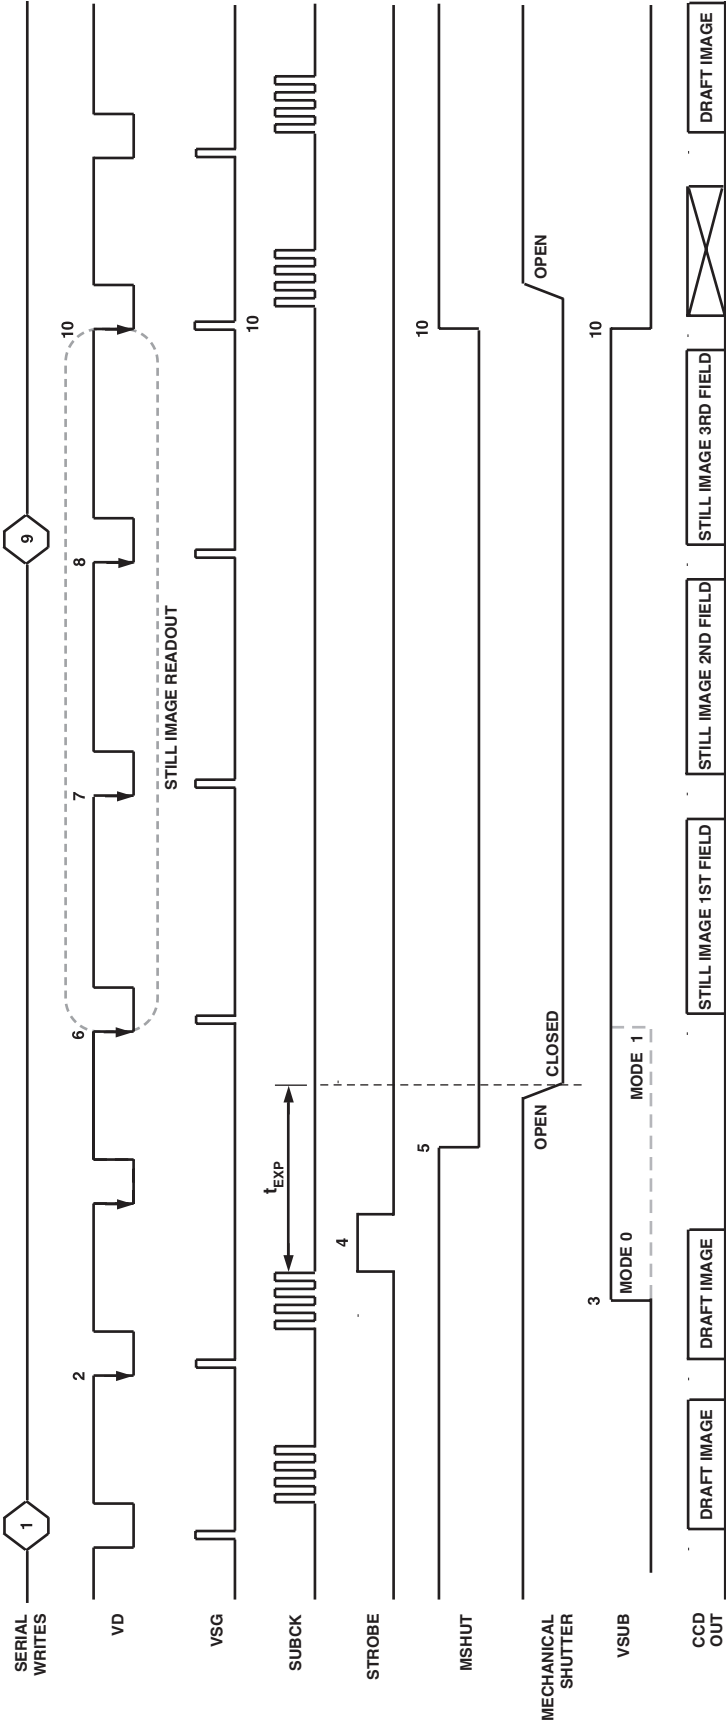

Figure 32. Example of Exposure and Still Image Readout Using Shutter Signals and Mode Register
See Figure 32 for a complete example of triggering the exposure and readout operations.
- Write to the TRIGGER register (addr 0x60) to enable the STROBE, MSHUT, and VSUB signals, and to start the exposure/readout operation. To trigger all of these events (as in Figure 32), set the register TRIGGER = 31. Readout will automatically occur after the exposure period is finished.